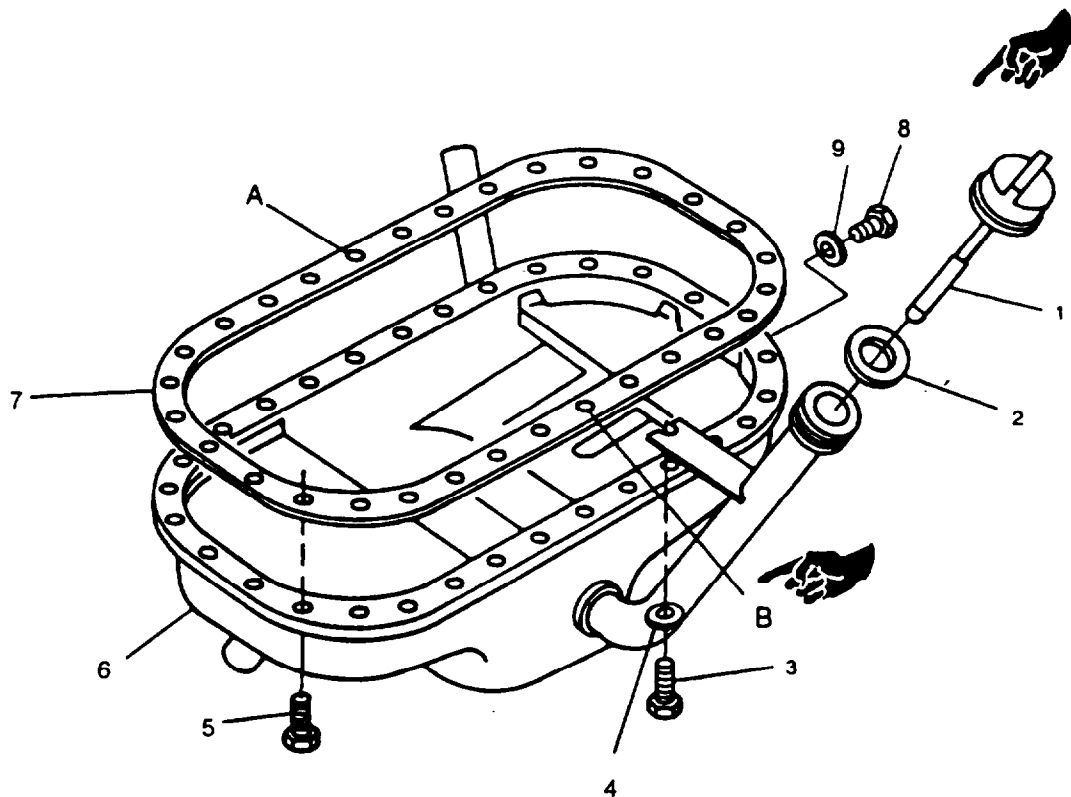

FIGURE 3-40. Oil Pan Assembly
- a. Inspect dipstick (1, FIGURE 3-40) for legibility. Replace if damaged.
- b. Inspect gasket (2) for deterioration and replace as necessary.
- c. Inspect oil pan (6) for cracks, dents, or other damage. Replace if damaged.
- c. Affix new gasket (7, FIGURE 3-40) to crankcase flange.
- d. Remove screw (3) and washer (4) securing tube.
- e. Position oil pan (6) and install all thirty screws (5) hand-tight. Tighten screws to 72 in-lbs (8.1 Nm) starting at point 'A' and 'B' alternately and work in a counterclockwise direction from each of these points until all thirty screws are tightened.
- f. Install screw (3) and washer (4) securing tube. Tighten to 168 in-lbs (19 Nm).
- g. Install oil drain plug (8) with new gasket (9).
- h. Install dipstick (1) and new gasket (2).